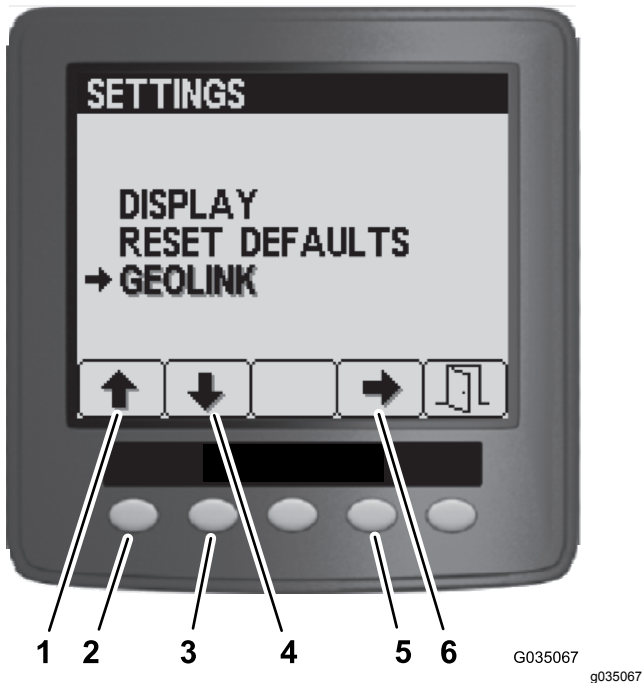

Figure 151
4. On the Settings menu, press button 1 or button 2 until the GeoLink option is highlighted, and press button 4 to navigate to the GeoLink menu (Figure 151).